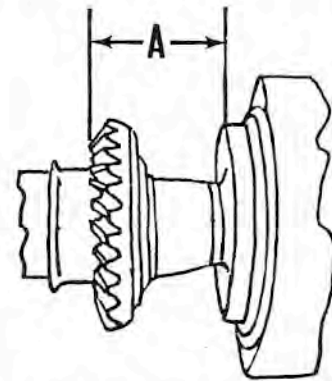

Fig. WB89—Drive gear backlash is correct if distance (A) measures 2.887 inches. Refer to text.
Drive gear backlash is controlled by means of shim pack (8) installed between bearing cup (9) and bearing cage (6). Backlash adjustment is correct if the distance (A—Fig. WB89) measures 2.886-2.888. Shims are available in thicknesses of